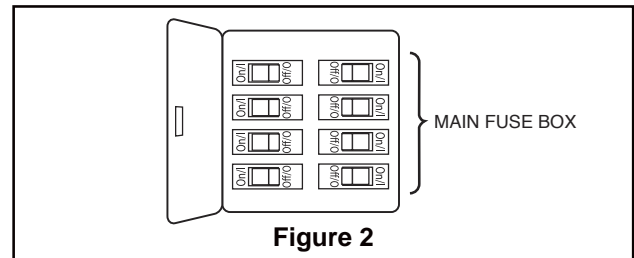

Figure 2
**To avoid possible electrical shock, be sure electricity is turned off at the main fuse box before wiring (Figure 2).**